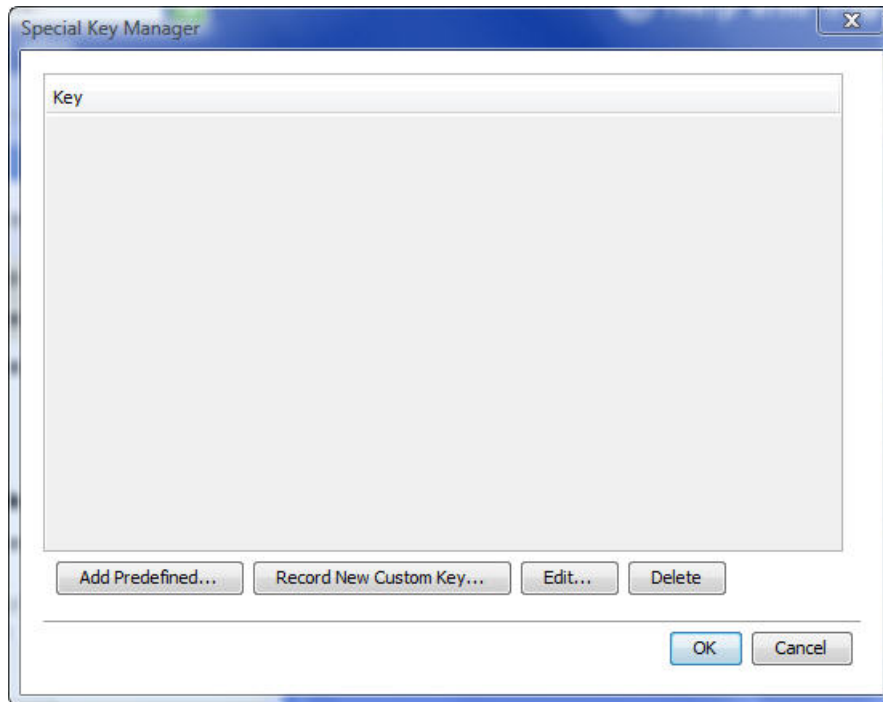

Figure 39 – Special Key Manager
1. In the Special Key Manager box (see Figure 39), click **Record New Custom Key**.
1. In the Special Key Manager box (see Figure 39), select the desired key sequence and click **Edit**.
1. In the Special Key Manager box (see Figure 39), select the desired key sequence(s) to delete. Select a group of keys by selecting the first key in the group, pressing the **Shift** button, and then selecting the last key.